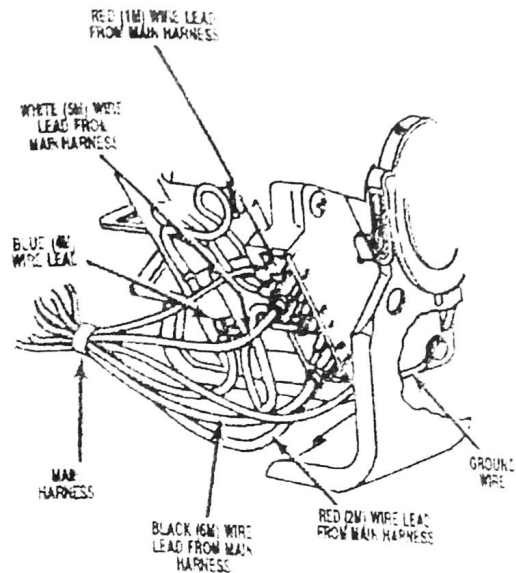

FIGURE 6
11. Connect the blue (4M) wire from main harness to the vacant terminal on the overload protector that you remove the jumper wire from in step 10. See *Figure 6*.
12. Connect the red (1M) wire lead from main harness to the 1/4" terminal marked 1 on the motor switch. See *Figure 6*.
13. Connect the red (2M) wire lead from main harness to the 1/4" terminal marked 2 on the motor switch. See *Figure 6*.
18. Connect the white (5M) wire lead from main harness onto the 1/8" terminal marked 5 on the motor switch. See *Figure 6*.
19. Connect the black (6M) wire lead from main harness onto the 1/8" terminal marked 6 on the motor switch. See *Figure 6*.
20. Reconnect ground wire. See *Figure 6*.